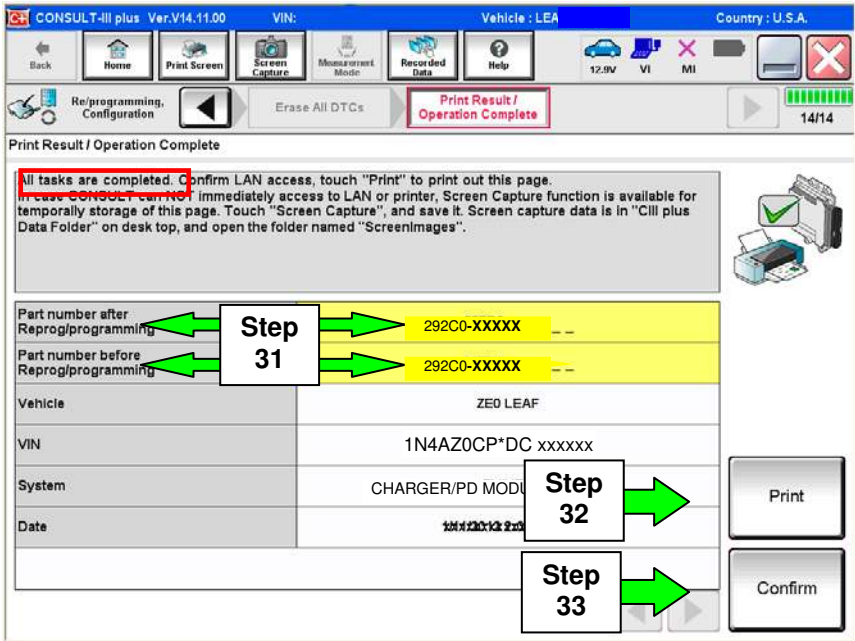

Figure 22
- 32. Print a copy of this screen (Figure 22) and attach it to the repair order.